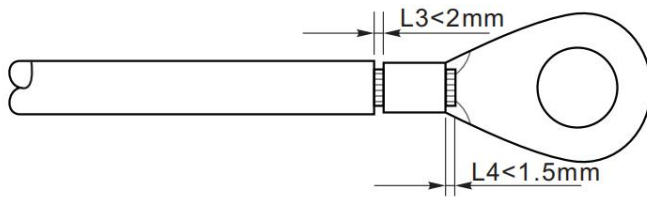

Figure 5-3 Grounding connection instruction (2)
Step 2: Insert the exposed core wires into the OT terminal and crimp them by using a crimping tool, as shown as figure 5.3. Recommend using OT terminal: OT-M6, Cable: $\geq 4\text{mm}^2$